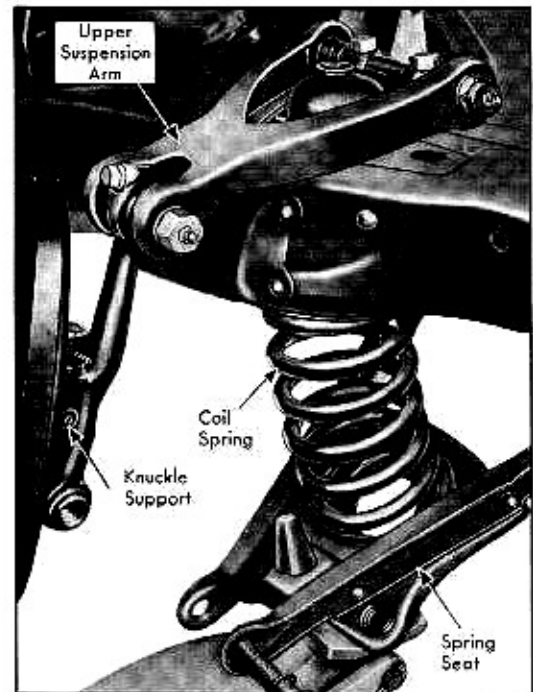

Fig. 6-24 Install Front Spring
5. Place jack under lower suspension arm and raise arm into position. Guide spring into position on insulator with tanged end in formed depression, Fig. 6-24.
(24) Straightening Bent Parts